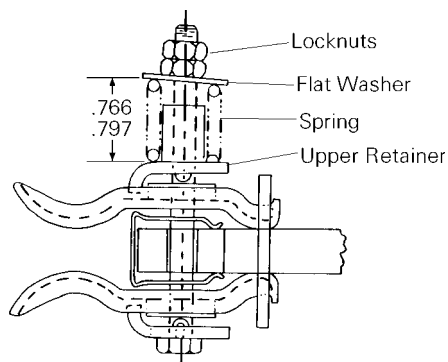

Figure 7-5. Primary disconnect adjustment on WPX08, WPS16, WPF16, WPH16, and WPS20 breakers.
7. The primary disconnect assembly on new breakers is adjusted in the factory for a force of 85–105 pounds on a 1/2-inch-thick copper bar between the fingers. This force range can be obtained after installation of a new primary disconnect assembly by adjusting the finger spacing as shown in Figure 7-5. Loosen the lock nuts to obtain a spacing of 0.766–0.797 inch between the top of the upper retainer and the bottom of the flat washer. Tighten the lock nuts.